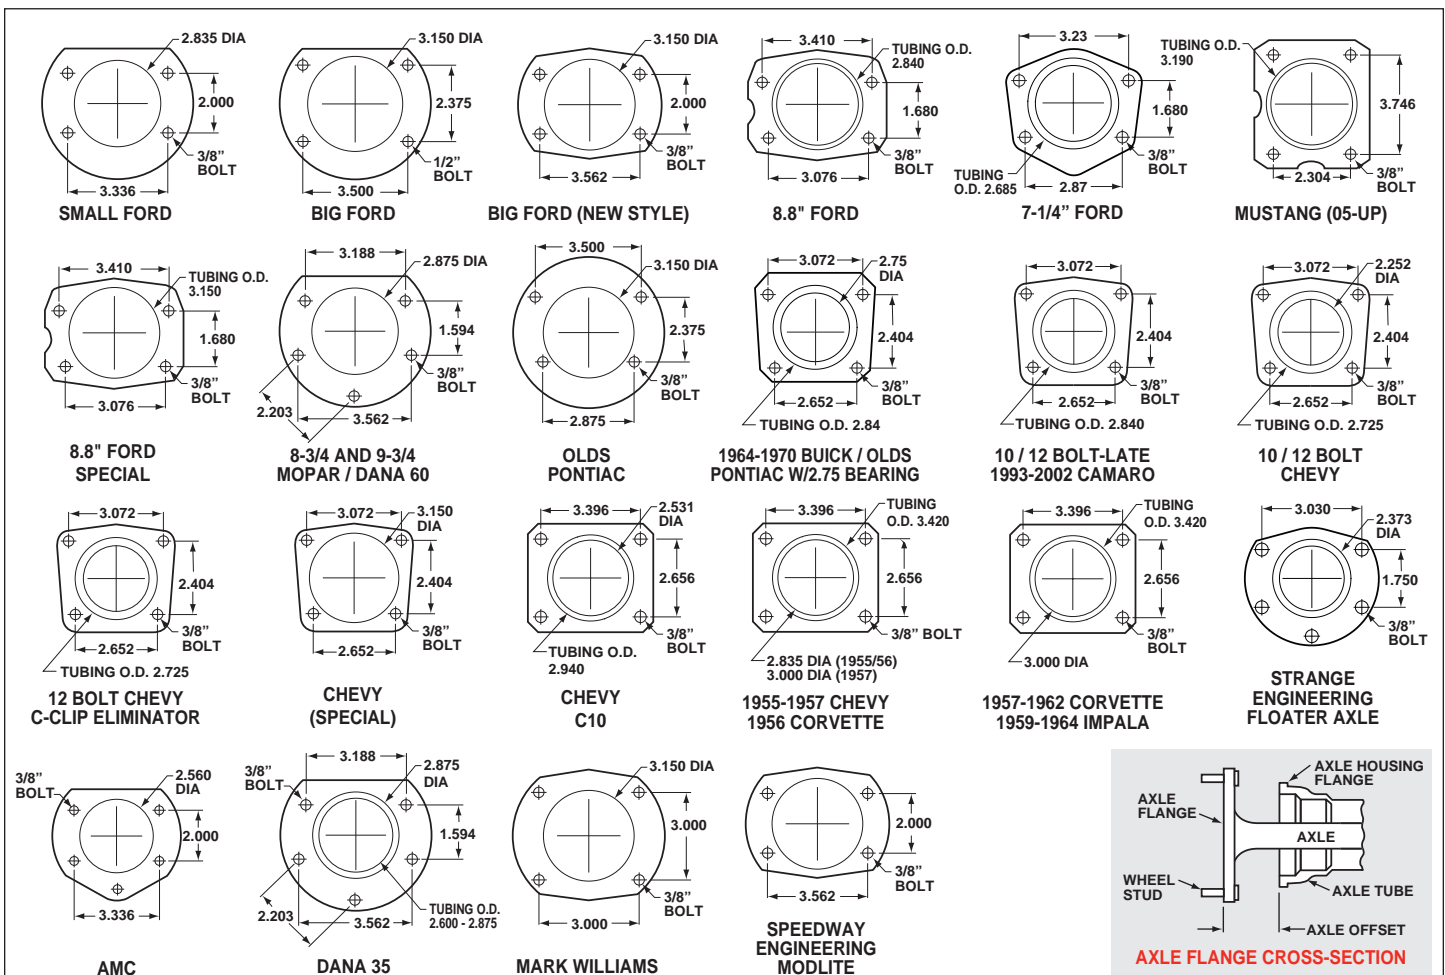

Figure 6. Rear Housing Flange Chart and Axle Flange / Offset Cross-Section
- Make sure this is the correct kit to fit the axle housing flange, not necessarily the rear end make. Many times after market manufacturers put a different make of axle housing flange on the stock rear end housing (see Figure 6, next page). Example; Big Ford rear ends with Olds-Pontiac flanges, therefore, an Olds-Pontiac rear disc brake kit would be the correct kit to order.
- Dimension from wheel side of axle flange to wheel side of axle housing flange (see Figure 6, lower right hand corner). This dimension is critical to ensure proper alignment of the rotor to the caliper, and should match offset given in the kit description.